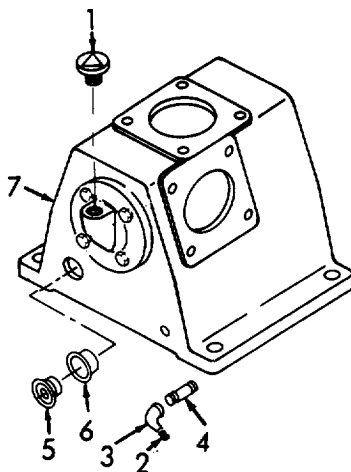

Figure 3-23. Oil Filler Cap, Plug, and Sight Gage, Removal.
a. *Removal.* (Refer to Figure 3-23).